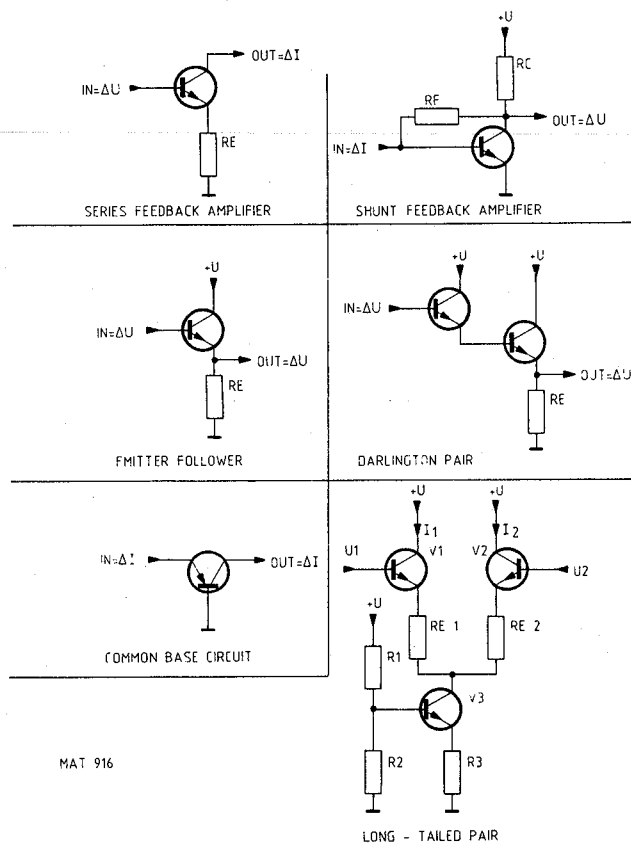

Fig. 2.9. Basic analog circuits
2.12.1. Basic analog circuits (see Fig. 2.9.)
In the diagram of Fig. 2.9, the long-tailed pair is formed by transistors V1 and V2. Transistor V3 functions as a constant-current source for V1 and V2.